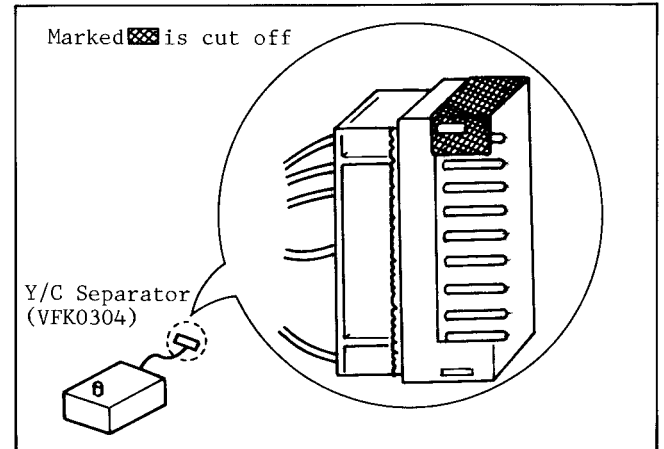

Fig. 6
\*Cut off the marked portion of Y/C Separator output connector as shown in Fig. 6.
1. On the trap Connector, pull out on both ends of the Locking Tab surrounding the cable end to release the Trap on the Connector. Then pull Flexible Cable out to remove as shown in Fig. 6.